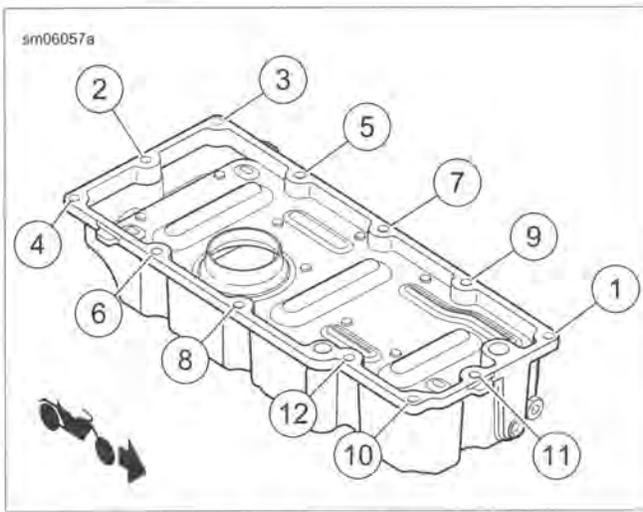

Figure 3-141. Oil Pan Torque Sequence
5. Position oil pan with gasket on bottom of transmission and loosely install fasteners (6).
6. Verify the gasket is properly positioned and tighten oil pan fasteners (6) to 132-156 **in-lbs** (14.9-17.6 Nm) following sequence shown in Figure 3-141.
8. Install transmission drain plug and O-ring (5). Tighten to 14-21 ft-lbs (19.0-28.5 Nm).
9. Install engine oil drain plug and O-ring (3). Tighten to 14-21 ft-lbs (19.0-28.5 Nm).